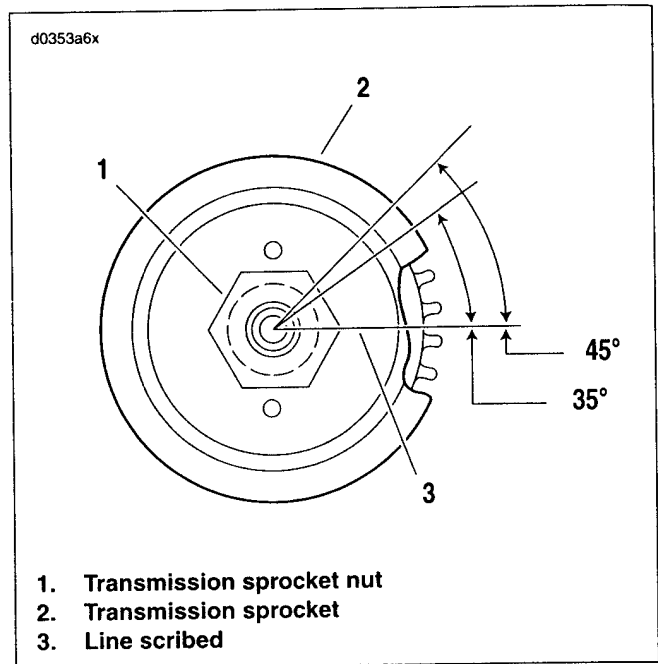

Figure 6-28. Transmission Sprocket Nut Final Tightening
- See Figure 6-28. Scribe a line (3) on the transmission sprocket nut (1). Continue the line on the transmission sprocket (2) as shown.